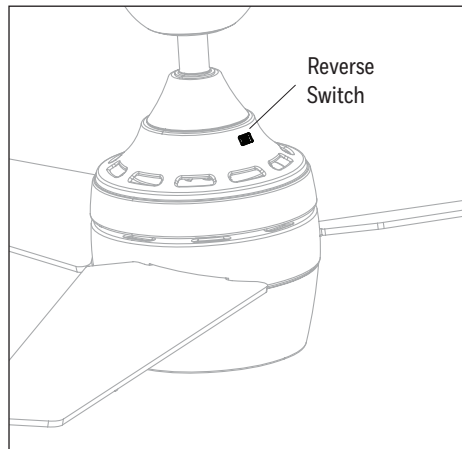

Figure 6.2
2. **Reverse Switch** - **In warmer weather**, push the reverse switch left, which will result in downward airflow creating a wind chill effect. **In cooler weather**, push the reverse switch right and the fan to low, which will result in upward airflow that can help move stagnant, hot air off the ceiling area. **Important:** Wait for the fan to stop before moving the reverse switch. The reverse switch must be set either completely left or right in order for the fan to function correctly. If the reverse switch is set in the middle position, the fan will not operate (Figure 6.2).